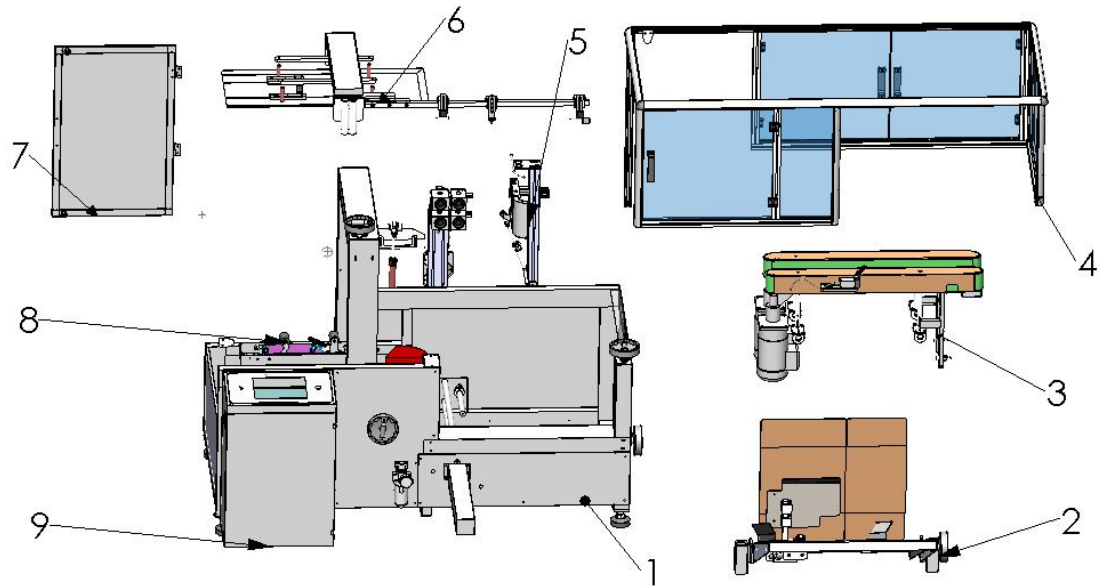

Figure 25
5.1 Main body mechanism, as shown in Figure 25 and Table 1: